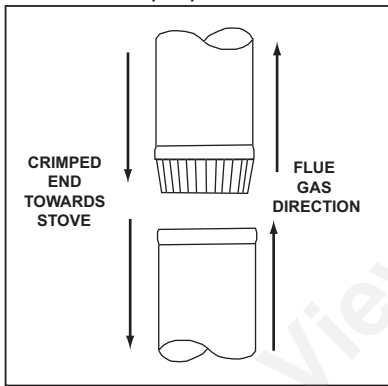

FIGURE 10A - Chimney Connector
- A. Single wall connector or stove pipe. This must be at least 24 gauge mild steel or 26 gauge blue steel. The sections must be attached to the stove and to each other with the crimped (male) end pointing toward the stove. **See Figure 10A.** All joints, including the connection at the stove collar, should be secured with three sheet metal screws. Make sure to follow the minimum clearances to combustibles as set out on **page 7** of this manual. Where passage through the wall, or partition of combustible construction is desired, the installation shall conform to CAN/CSA-B365 (Canada).